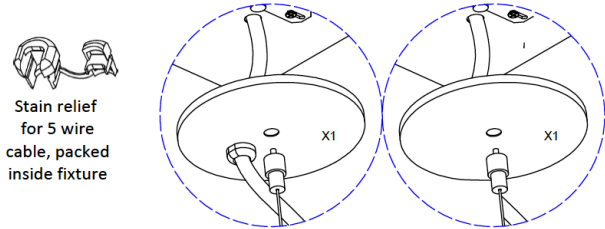

Fig. 8
2. Remove the power cord knockout and connect the power cord to the ceiling power feed using the included strain relief (refer to wiring diagram). (Fig. 8)
wiring diagram). (Fig. 8)